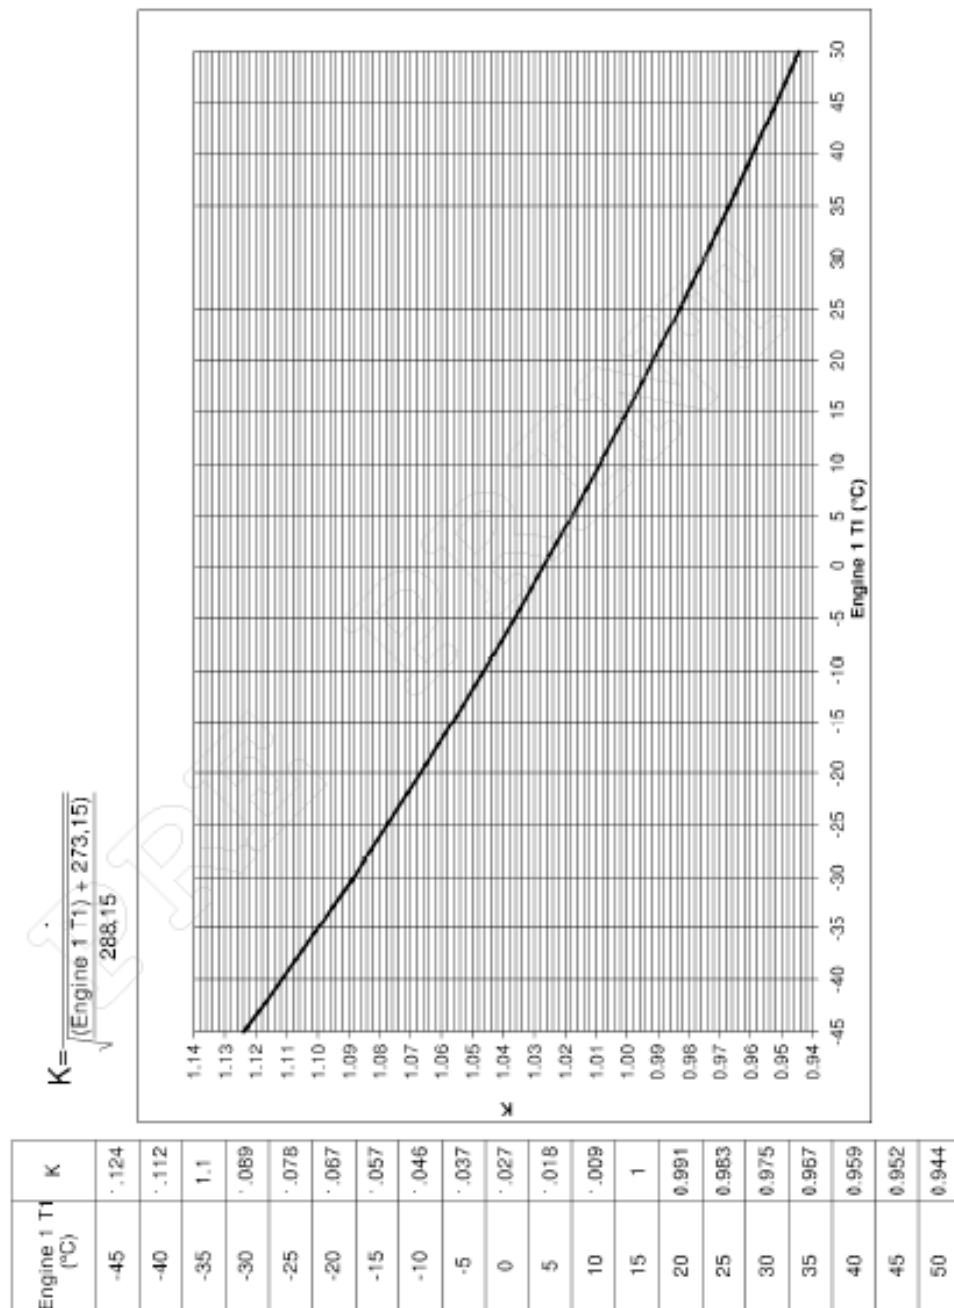

Figure 11
- With (Figure 11), calculate the value of K related to the engine 1 T1 "configuration 1" value that you recorded before.
You can use (Figure 11), to find the constant K.
- With (Figure 11), calculate the value of K related to the engine 1 T1 "configuration 2" value that you recorded before.